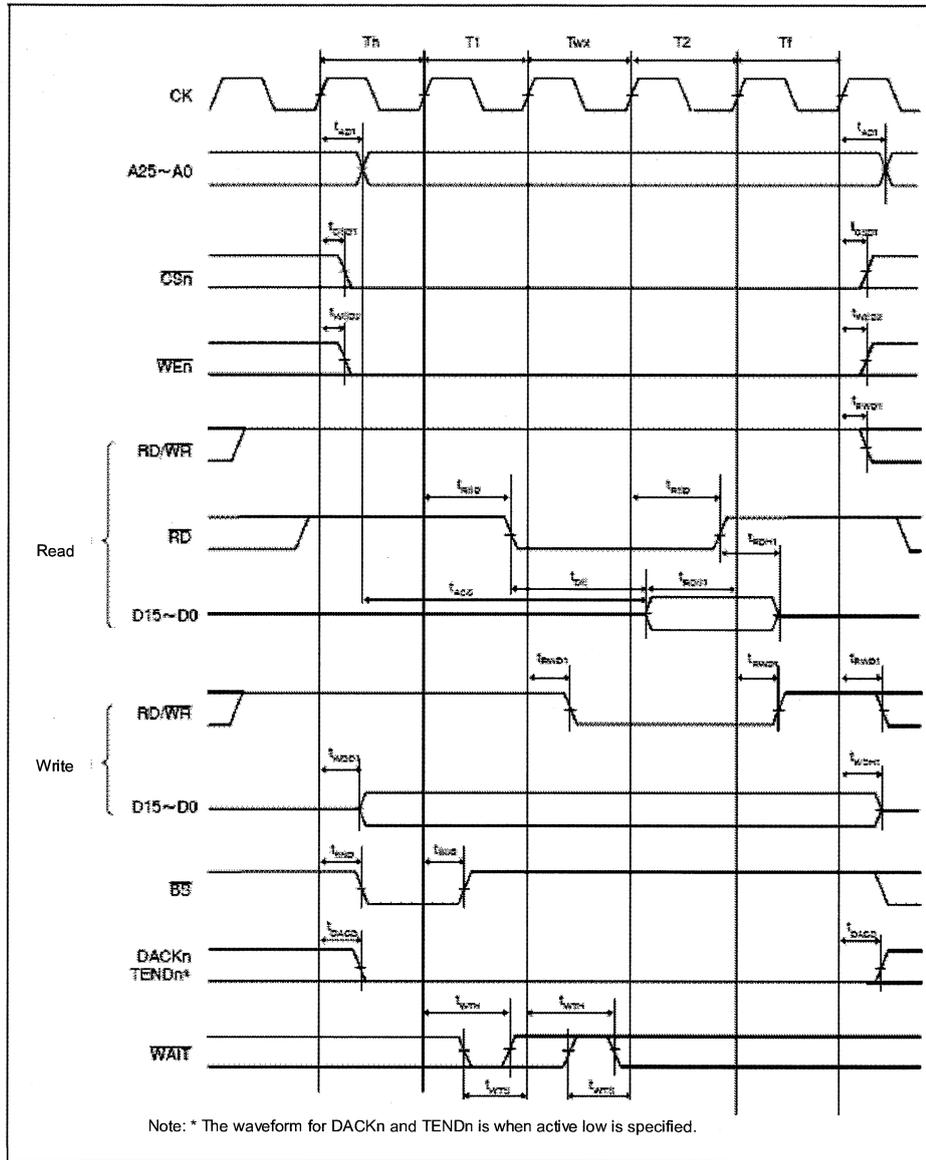

Figure 27.18 Bus Cycle of SRAM with Byte Selection (SW = 1 Cycle, HW = 1 Cycle, One Asynchronous External Wait Cycle, BAS = 1 (Write Cycle WE Control))
13. Figure 27.18 Bus Cycle of SRAM with Byte Selection
[Before] (Hardware Manual Rev. 2.00 Figure 27.18)